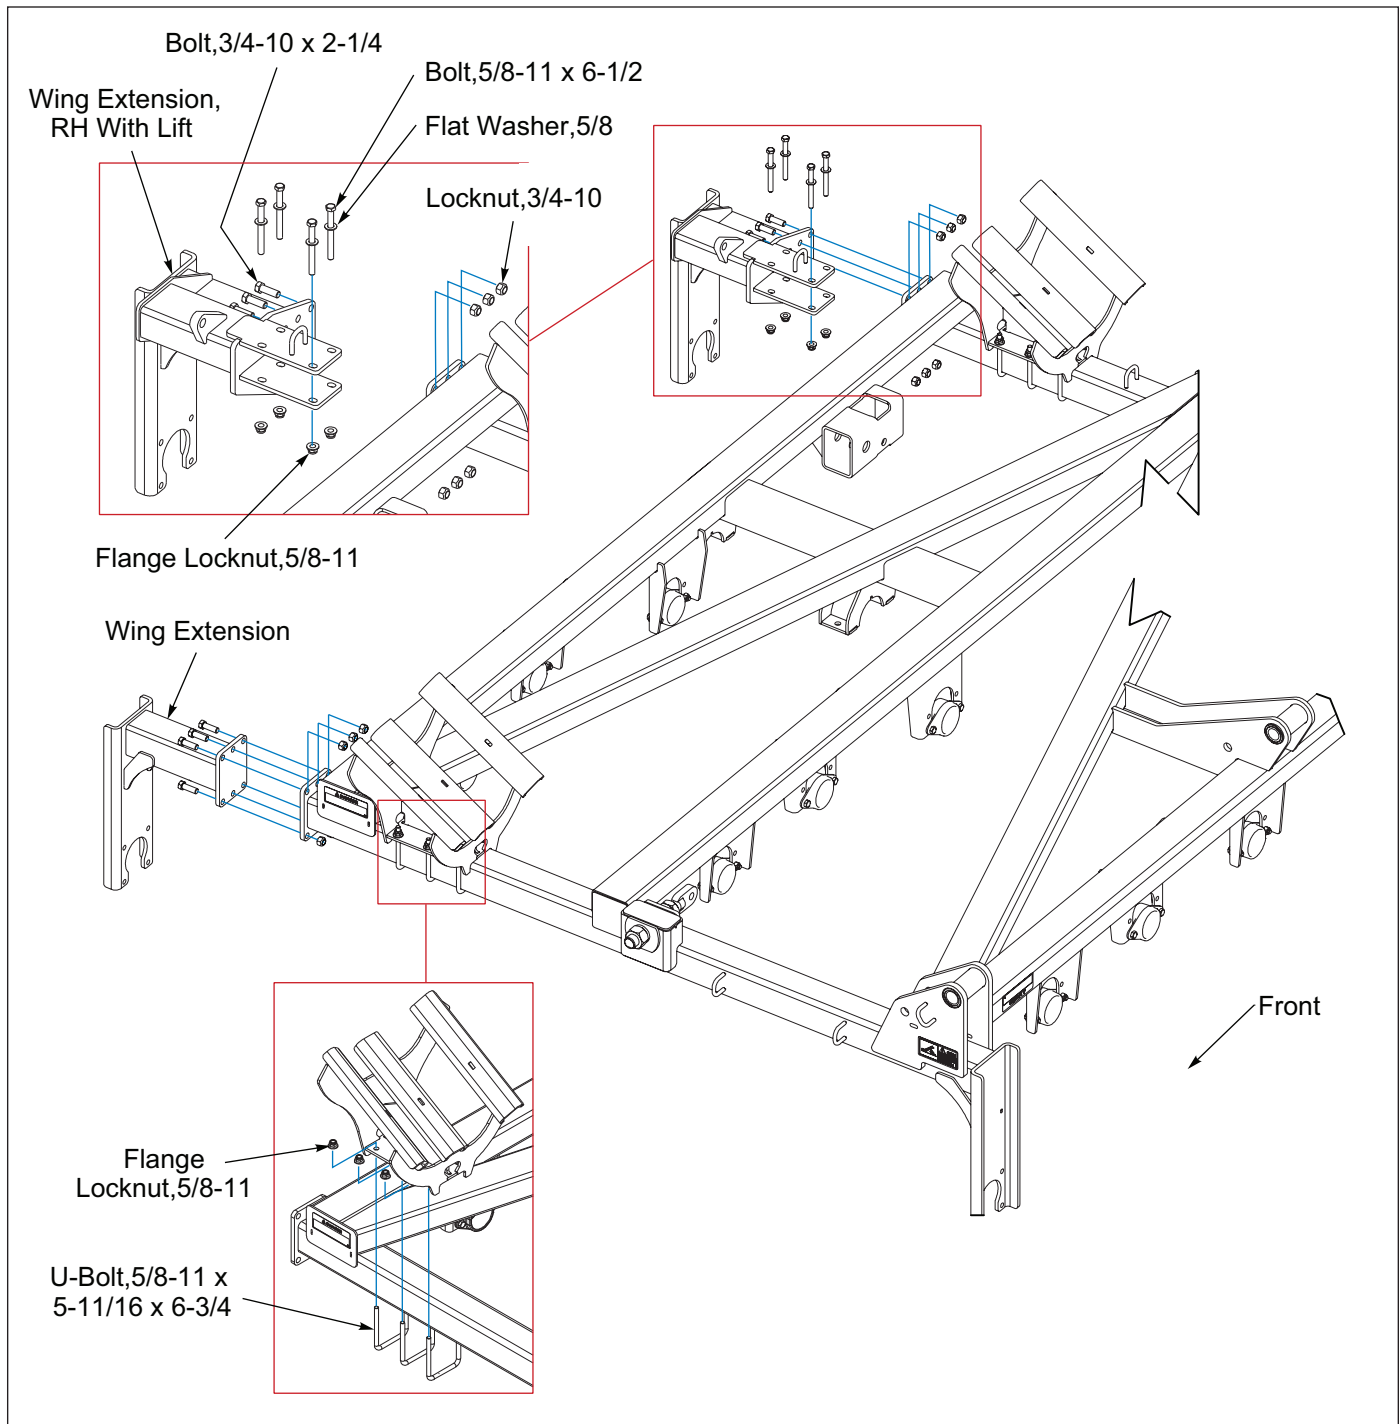

Figure 2-49: Right Wing Rest and Bearing Hanger
1. Assemble a Rubber Bumper onto each Wing Rest Bracket with 1/2-13 x 3-1/2 Bolts, Flat Washers and Locknuts. See Figures 2-49 and 2-50.